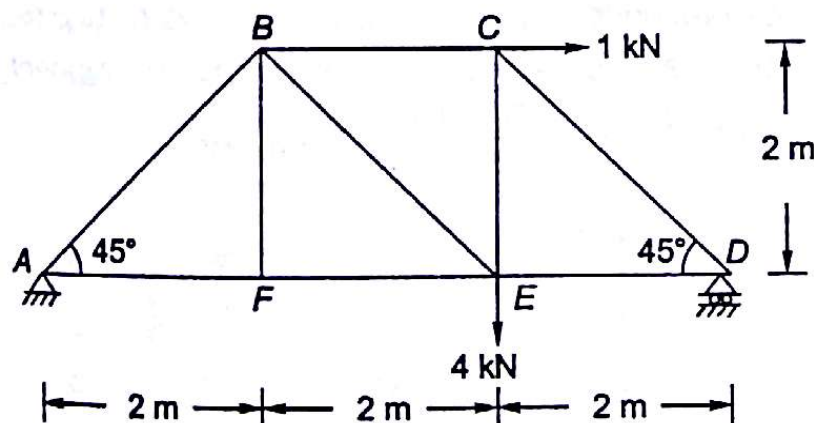

Fig. 4.27
- 4.2 A truss $ABCDEF$ is hinged at end A and roller supported at D as shown in Fig. 4.27. It is subjected to vertical and horizontal forces as shown. Calculate support reactions, and forces in members DE and CE .